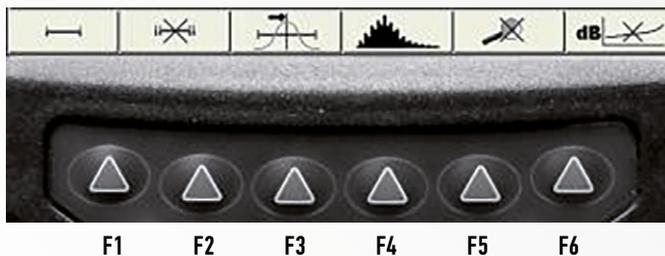

Figure 6
**Note:** in the manual the standard numeration is from 1 to 6, from left to right of the icon windows and corresponding functional buttons is used (Figure 6).